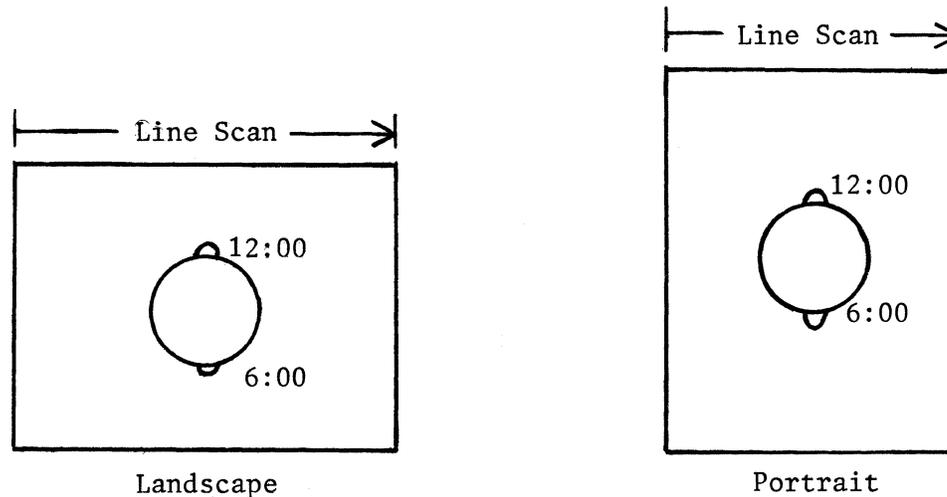

Figure 5.1 Centering Ring Tabs Reference Positions
1. Position centering ring tabs to 6 o'clock and 12 o'clock positions. Refer to Figure 5.1. The line scan for your monitor must be horizontal for the proper orientation for this adjustment.